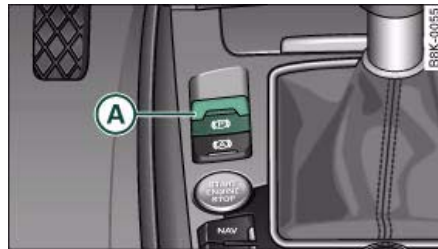

Fig. 133 Centre console: Parking brake
- Pull switch (A) ⇒ fig. 133 to apply the parking brake. The indicator lamp in the switch will light up.